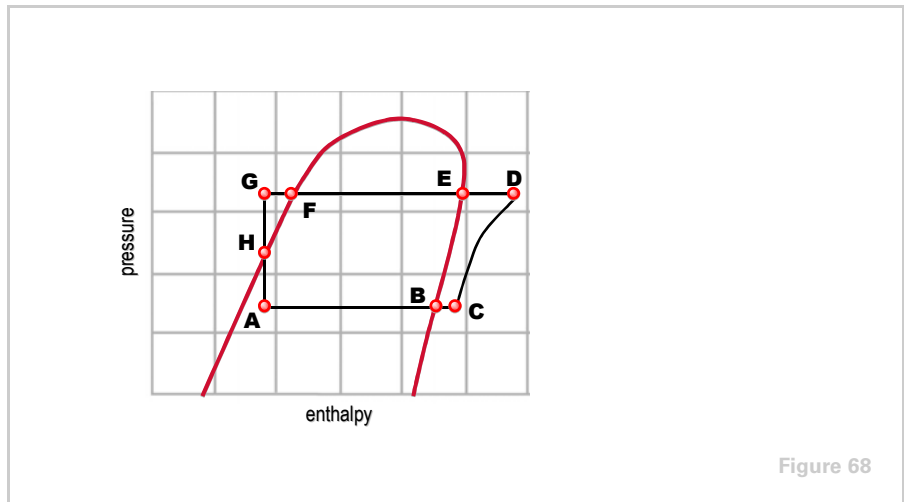

Figure 68
- 1 Using the pressure–enthalpy chart in Figure 68, which two points correspond to superheating the refrigerant vapor inside the evaporator?
- 2 Again using Figure 68, which two points correspond to subcooling the liquid refrigerant inside the condenser?